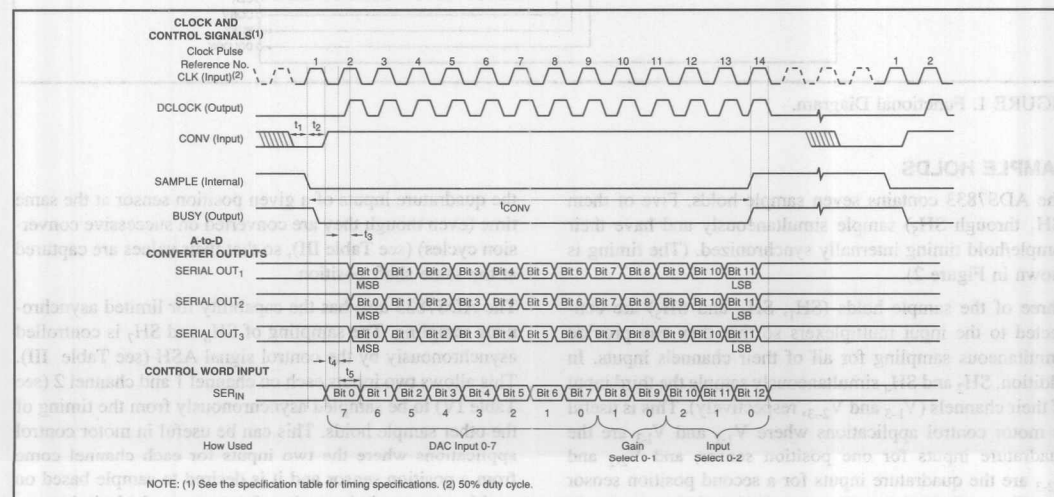

FIGURE 2. Timing Diagram.
The ADS7833 contains seven sample holds. Five of them (SH₁ through SH₅) sample simultaneously and have their sample/hold timing internally synchronized. (The timing is shown in Figure 2).
An 8-bit DAC provides 256 output voltage levels from 0V to 2.5V (see Table V for input/output relationships). The DAC is controlled by the DAC Input portion of the input setup word. The DAC Input portion of the word is strobed into the DAC at the end of the conversion cycle (14th CLK pulse in Figure 2).
Sampling and conversion is controlled by the CONV input (see Figure 2). The ADS7833 is designed to operate from an external clock supplied at the CLK input. This allows the conversion to be done synchronously with system timing so that transient noise effects can be minimized. The CLK signal may run continuously or may be supplied only during convert sequences. The BUSY and DCLOCK signals are internally generated and are supplied to make interfaces with microprocessors easier (see Figures 2, 4, and 6).
Configuration information for these parameters is contained in the SER_{IN} word (See Figure 2). As one conversion is taking place, the configuration for the next conversion is being loaded into the buffered Input Setup Register via the SER_{IN} word. Table I shows information regarding these parameters.
NOTE: (1) See Figure 2. "Clock Pulse Reference No."
The PGA gain is determined by the Gain Select portion (bits 8 and 9) in the SER_{IN} word (see Figure 2). There is one gain input that sets the same gain for all three PGAs. The gain values and allowable full scale inputs are shown in Table II. For channels one and two the PGAs set the gain for all three analog inputs. For the third channel, only the V_{3-1} input is gain changed by the PGA. Inputs V_{3-2} , V_{3-3} and V_{3-4} are connected to ADC_3 at a fixed gain of 1V/V regardless of the Gain Select value.
The Input Select portion of the SER_{IN} word (bits 10, 11 and 12) (see Figure 2) are decoded and determine the open/closed condition of the multiplexer switches. This in turn determines which input signals are connected to the sample holds and which sample holds are connected to the PGAs/ADCs.
The value of the DAC output voltage is determined by the DAC Input portion of the SER_{IN} word (bits 0 through 7—see Figure 2). The 8-bit DAC has 256 possible output voltages from 0V to +2.49V. The value of 1 LSB is 0.0098V.